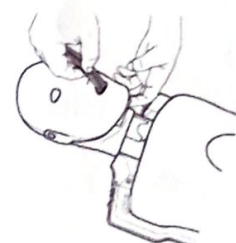

Figure 5
When the student reaches 100 compressions per minute, a second green light comes on, indicating that the recommended rate has been reached. (Figure 5)
5. Insert the folded Lung-Bag into the mouth of the manikin (Figure 5).